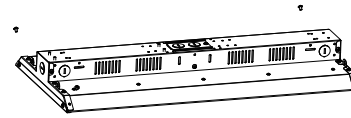

Figure 7
- Step1. Unscrew the two screws on the front of the lamp(Figure 7)